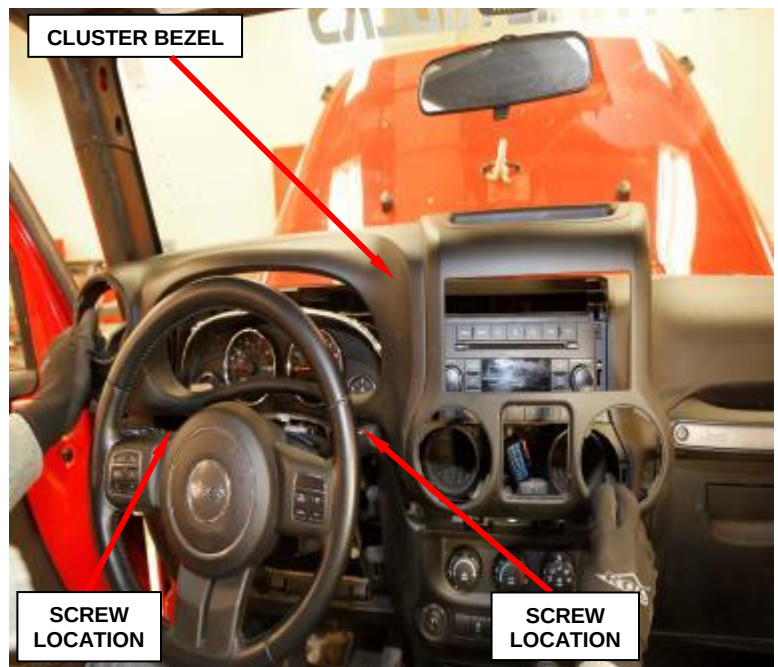

Figure 159 – Cluster Bezel Screws
19. Remove the two screws below the cluster on both sides of the steering column (Figure 159).